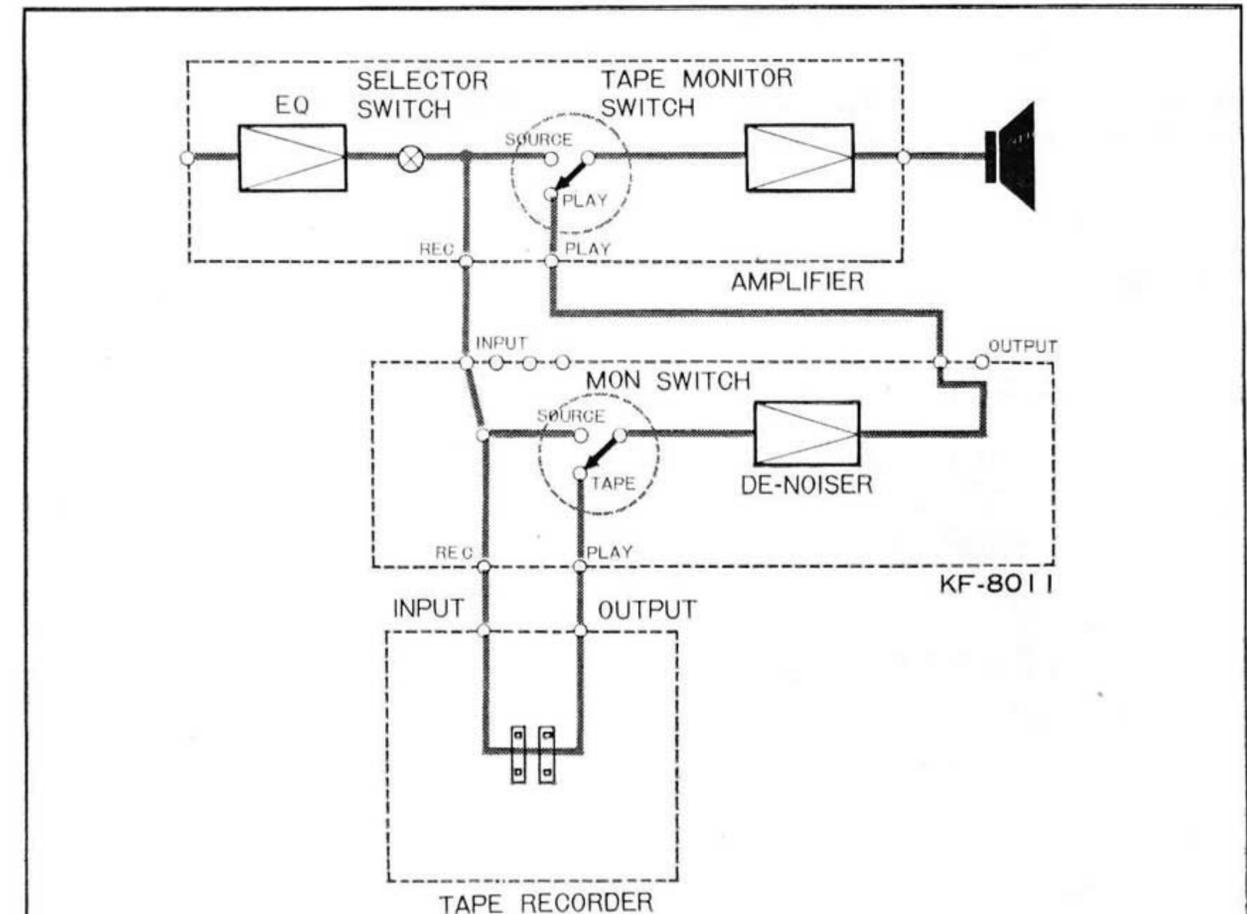

Figure 6. De-Noise Switch at NORMAL position.
- (c) **Set DE-NOISER switch to NORMAL and MON switch to SOURCE.** The signals thus fed to the unit's INPUT will pass through the denoiser circuit and appear at its OUTPUT. When the MON switch is set to TAPE the signals fed to the PLAY jacks will pass through the denoiser circuit and appear at the unit's OUTPUT. (See Fig. 6).